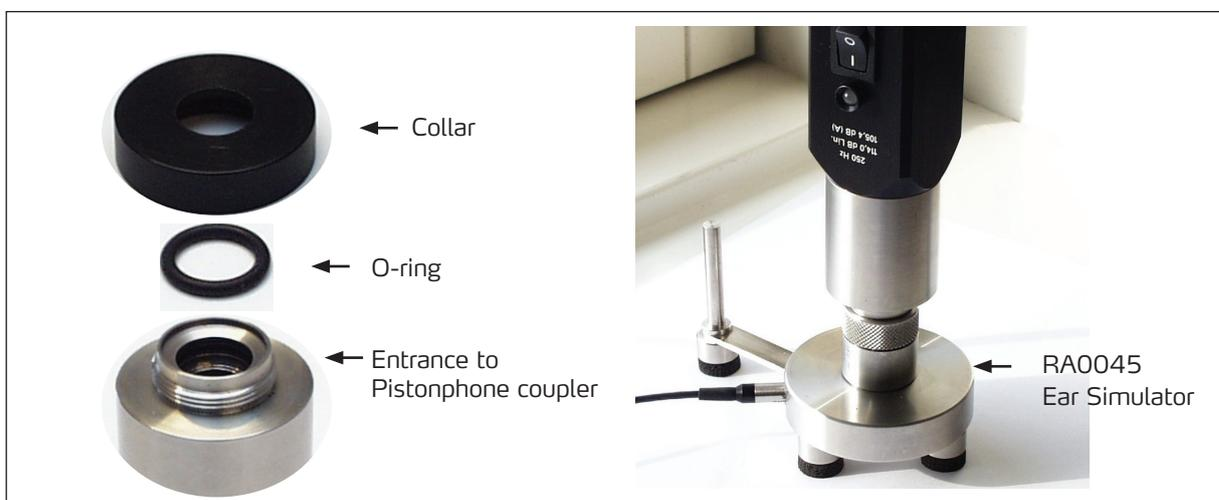

Fig. 4. Calibration using the Pistonphone
- 2) Unscrew the collar of the Pistonphone and remove the O-ring (see Fig. 4).